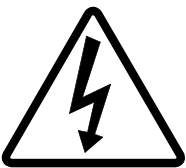

**figure 1** - Unbalanced output cable termination
Output connections are made via male XLR connectors with pin 2 positive, pin 3 negative and pin 1 ground. If the output is to be used unbalanced, pin 1 should be connected to signal ground and pin 2 to signal hot. Due to the nature of the balanced output stage, pin 3 should be left open for unbalanced operation. See **figure 1** below. *Note: This will provide a signal of positive absolute polarity when the preamplifier is being used with a microphone which produces a positive voltage on pin 2 with positive air pressure on the front of the diaphragm. While a vast majority of microphones conform to this standard a few do not. Use the phase reverse switch to compensate if necessary.*
- 7) *Set the input attenuator to +20dBu range. If the level meter has an unbalanced input, refer to figure 1 (p. 6) for unbalanced output termination information.*